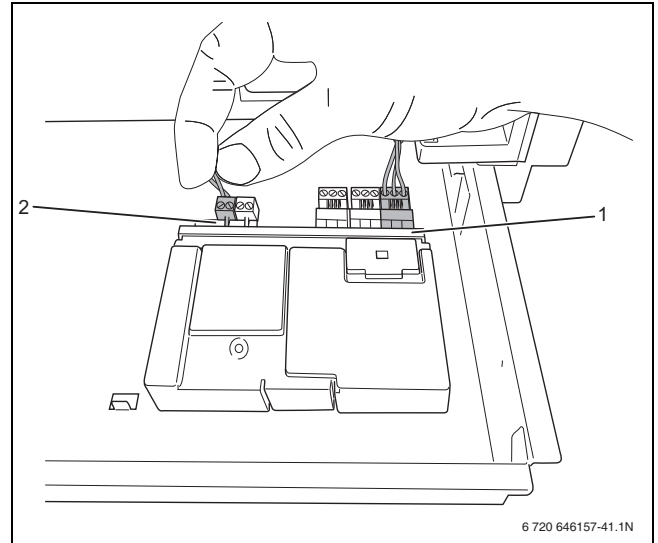
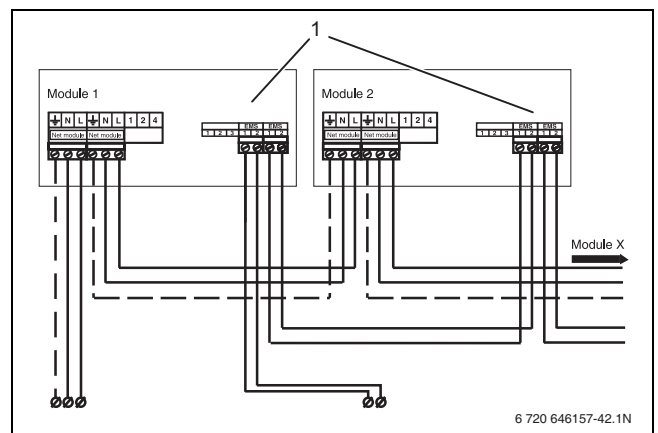

Fig. 44 Interconnecting modules
Fig. 45 Connecting several modules
- ▶ The module may have the letters RC or EMS above the connection (→ fig. 45, [1]).
- ▶ Connect the free connector of the EMS bus connecting cable (→ fig. 44) to the first module (→ fig. 45).
- ▶ If more modules are used, the EMS bus connection for the second module may be branched off from the first module using the cable enclosed with the module (→ fig. 44 and fig. 45).
- ▶ Connect the wire from terminal 1 to terminal 1 and from terminal 2 to terminal 2 (→ fig. 44 and fig. 45).